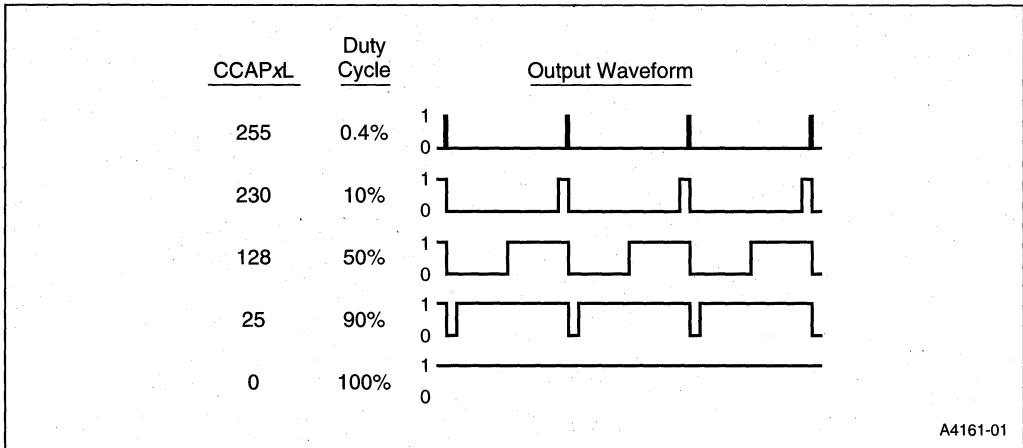

Figure 11-6. PWM Variable Duty Cycle
In this mode the value in the low byte of the PCA timer/counter (CL) is continuously compared with the value in the low byte of the compare/capture register (CCAP_xL). When $CL < CCAP_xL$, the output waveform (Figure 11-6) is low. When a match occurs ($CL = CCAP_xL$), the output waveform goes high and remains high until CL rolls over from FFH to 00H, ending the period. At rollover the output returns to a low, the value in CCAP_xH is loaded into CCAP_xL, and a new period begins.
The value in CCAPxL determines the duty cycle of the current period. The value in CCAPxH determines the duty cycle of the following period. Changing the value in CCAPxL over time modulates the pulse width. As depicted in Figure 11-6, the 8-bit value in CCAPxL can vary from 0 (100% duty cycle) to 255 (0.4% duty cycle).